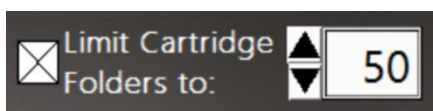

Figure 33: Limit Cartridge Data Folders controls
**Note:** The raw data (.bin) files are each approximately 1.25 GB. When the **Limit Cartridge Folders to** checkbox is selected (Figure 33), the software retains only the newest *N* folders (where *N* is the number typed in the field next to **Limit Cartridge Folders to**). All older cartridge data folders are deleted.